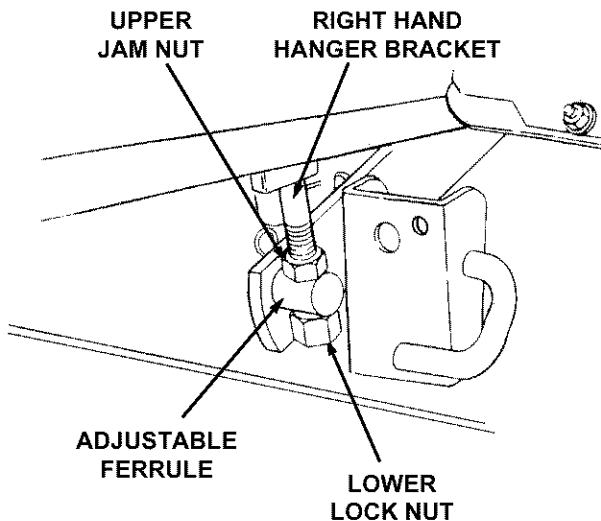

Figure 35
8. Side-to-side leveling is obtained utilizing the adjustment ferrule and right hand hanger bracket (See Figure 35).
9. Loosen the upper jam nut on the hanger bracket and turn away from the adjustment ferrule. Turn the lower lock nut upward (tighten) on the threads of the hanger bracket to raise the right side of the mower deck. Turn the lock nut down (loosen) on the threads to lower the right side of the mower deck (Refer to Figure 35).